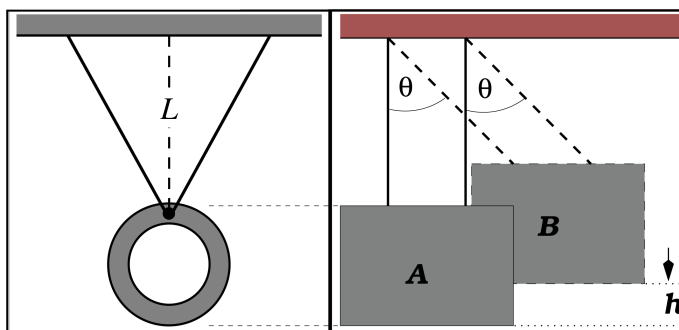

Figure 2: Front and side views of the catcher
To find V , note that motion **after** impact conserves mechanical energy. Hence the kinetic energy of the ball plus catcher at A in Fig. 2, just after impact, equals the potential energy of the two at the top of the swing (at B). Thus
3. Measure m , M and the length L of the pendulum (see Figure 2). Also record ΔL , the uncertainty in L . Try to minimize parallax error when measuring L .